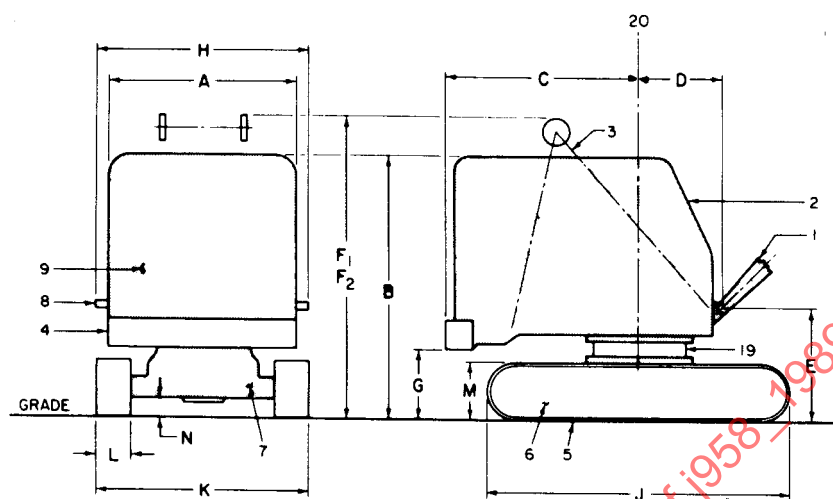

FIGURE 3—CRAWLER MOUNTING WITH REVOLVING SUPERSTRUCTURE
3.1 Dimensions—For revolving superstructure dimensions, see Figure 3 (A-F₂).
3.2 Definitions—For revolving superstructure definitions, see Figure 3 (2-4).
4. Crawler Mounting with Revolving Superstructure—See Figure 3.